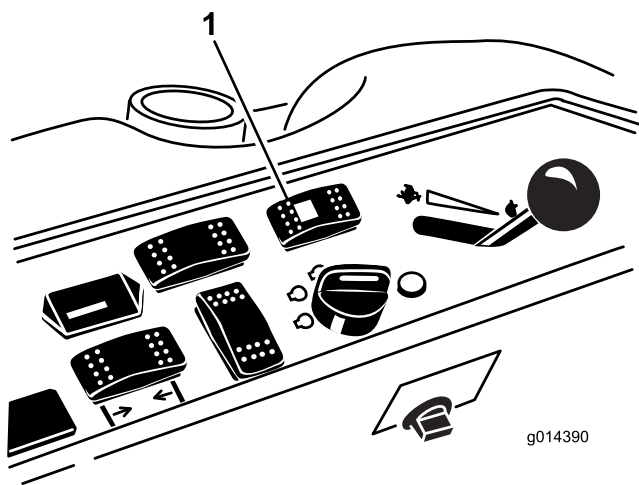

Figure 44
1. Press the steering selector switch to the rearward (four wheels steer) position (Figure 44).